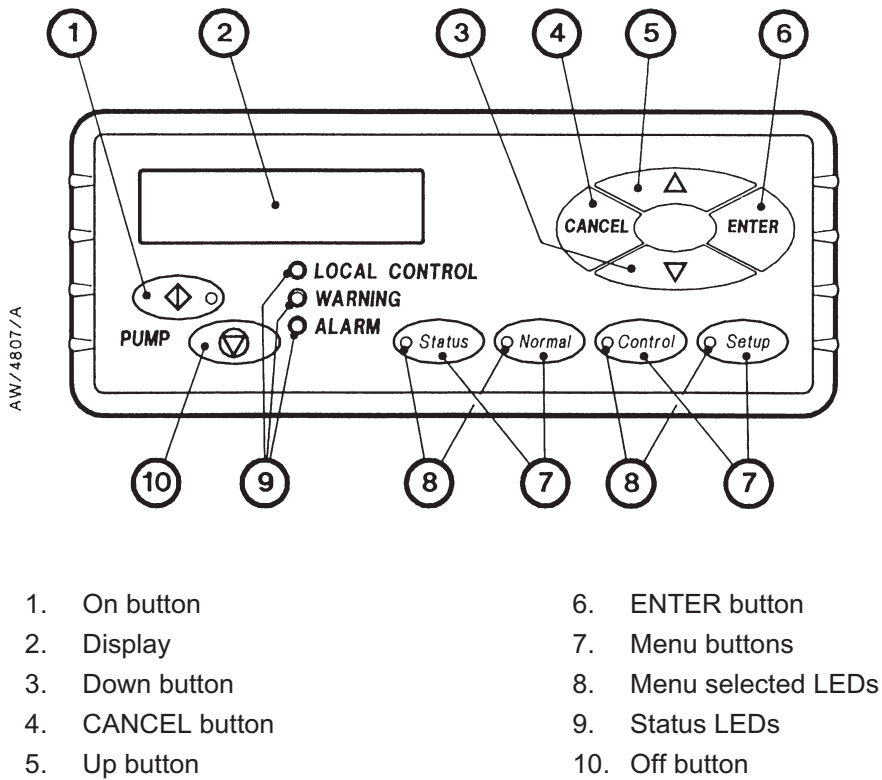
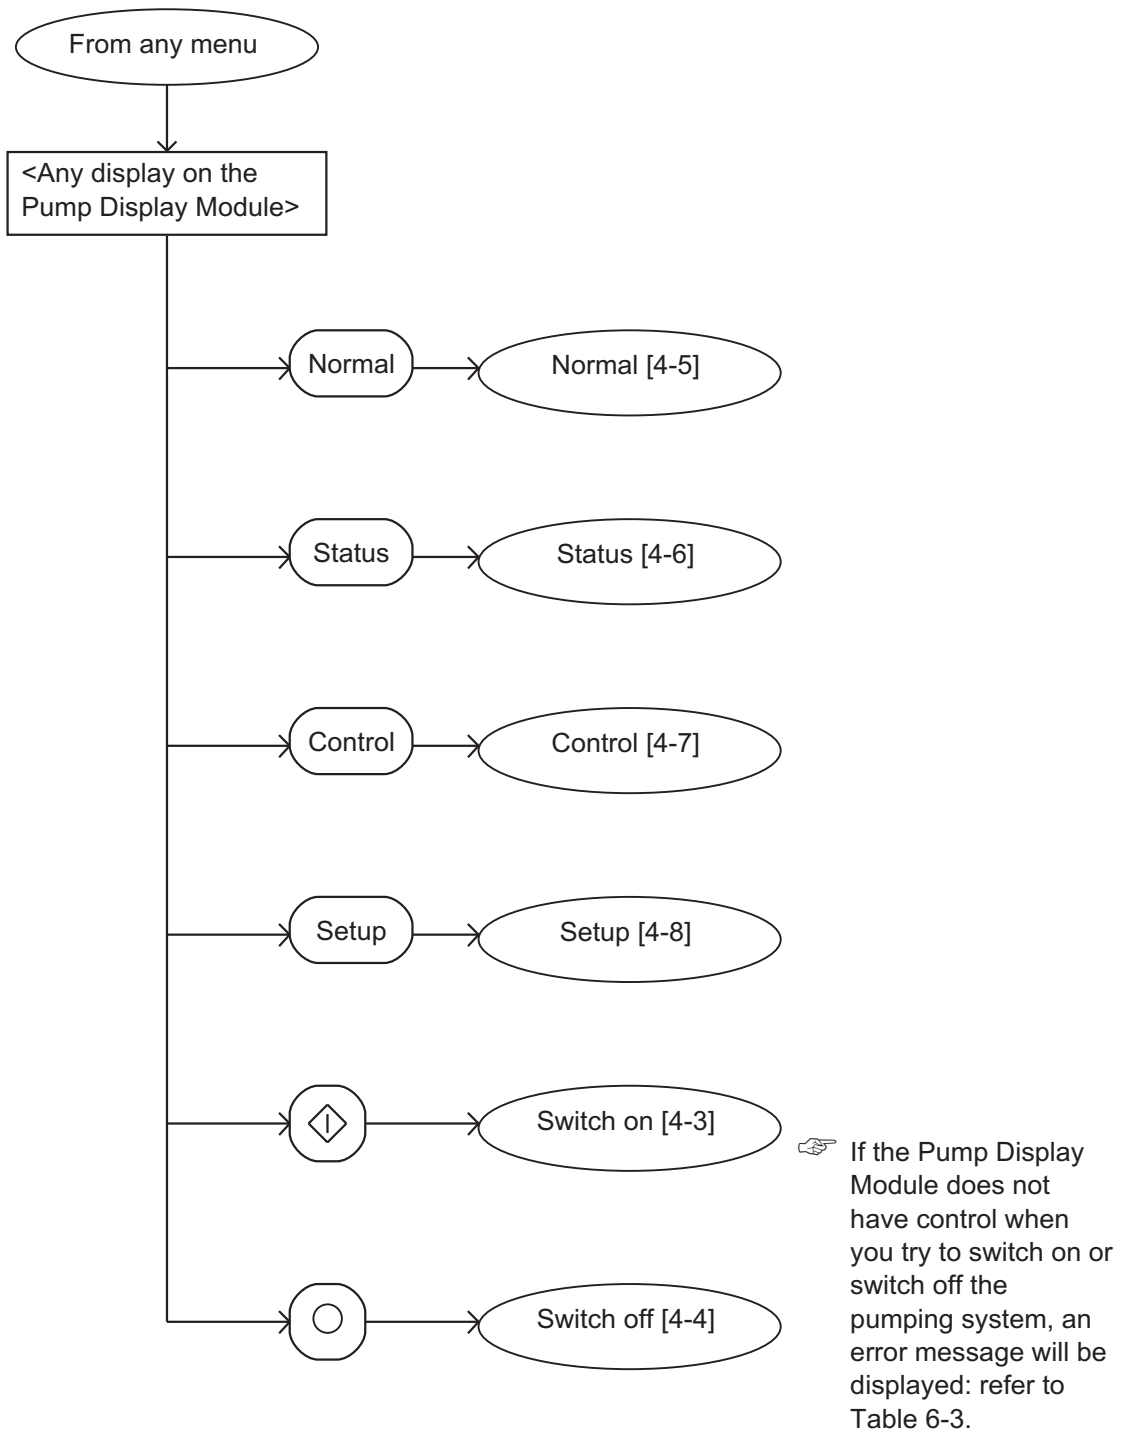

Figure 4-1 - Front panel of the Pump Display Module (optional accessory)
Figure 4-2 - Menu logic
The menus used and the display messages shown on the Pump Display Module are described in the menu diagrams in Figures 4-2 to 4-19. The following symbols and conventions are used in the menu diagrams:
When you first switch on the iL system, the normal display is shown: see Figure 4-5. Refer to Figure 4-1. You can then press the On or Off button (1 or 10) or any of the four menu buttons (7) to enter the corresponding menu. Then, regardless of the current menu and display status, when you press any of these buttons, you exit the current menu and enter the corresponding new menu. Figure 4-2 shows this menu control logic.
In the menu diagrams in Figures 4-2 to 4-19, text shown without chevron brackets in the two-line display symbol is the actual text that will be shown on the display. In this text, the ' ' symbol is used to show where a digit will be shown; the value of the digit depends on the sensor data or information you enter into the Pump Display Module.